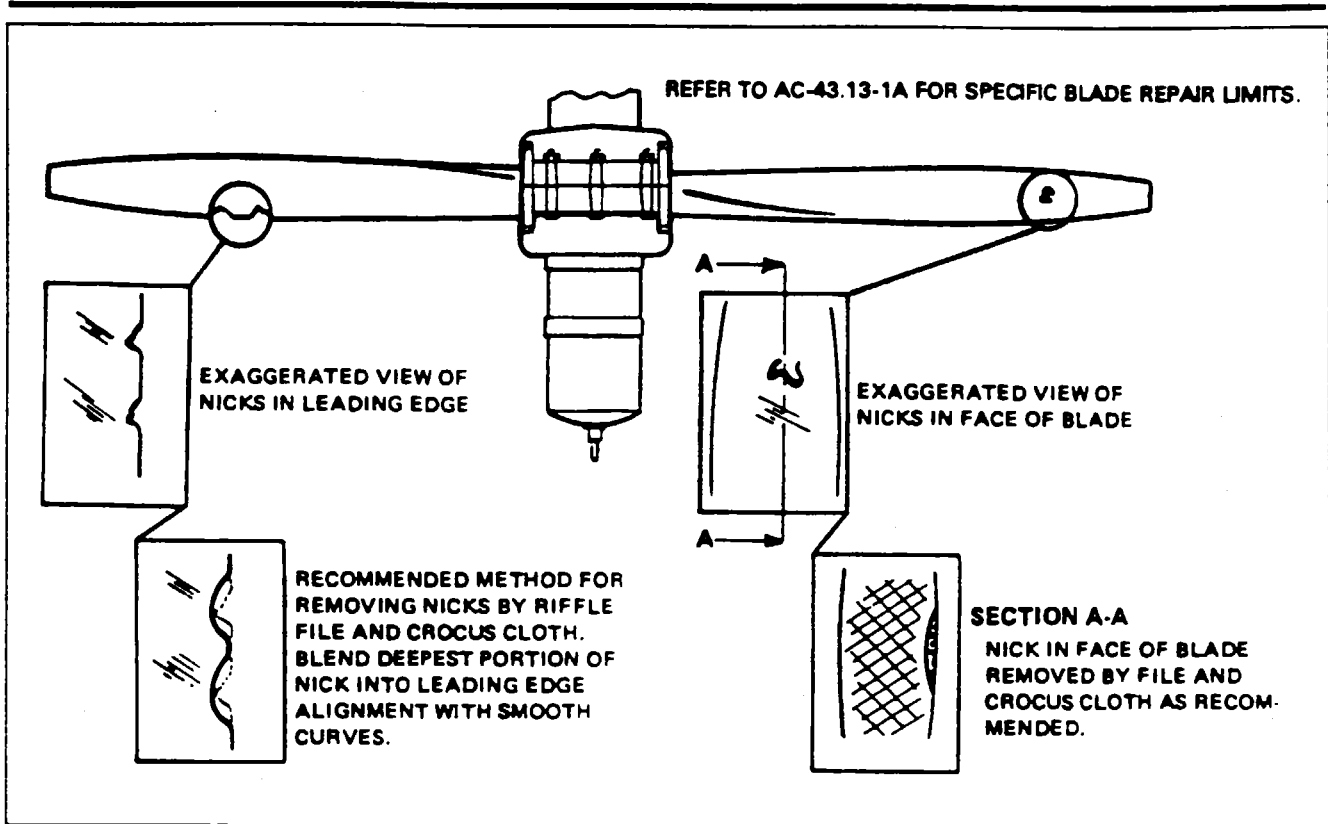

Figure 61-2. Typical Nicks and Removal Method
6. Inspect blades for damage or cracks. Nicks in leading edge of blades should be filed out and all edges rounded, as cracks sometimes start from such places. Use fine emery cloth for finishing. Refer to Figure 61-2 for propeller blade care.